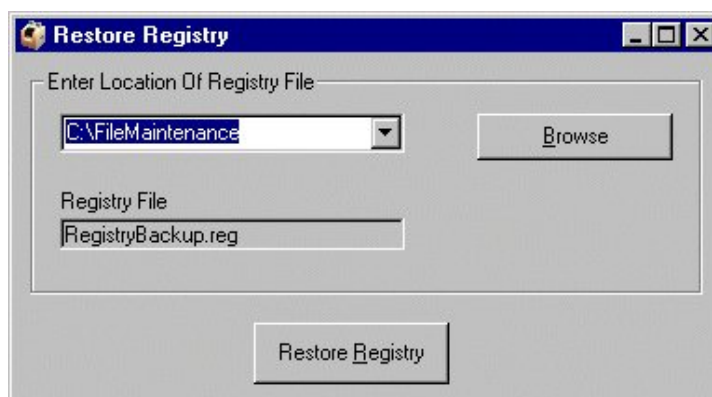

Figure 1-21 Restore Registry Editor Menu
3. The '**Restore Registry**' menu option is displayed in Figure 1-21.